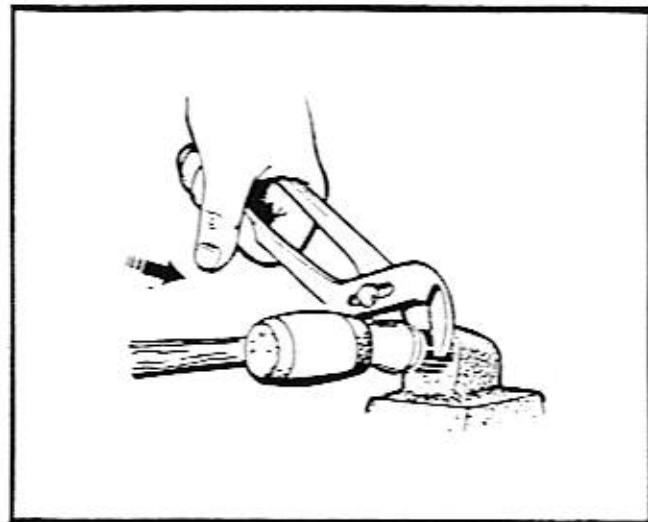

Figure 14-6
3. Install teeth by gripping the retainer with pliers and tapping into place through top of holder. Use a soft face hammer. See Figure 14-6.